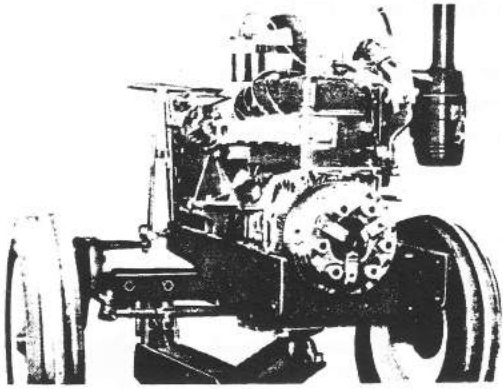

Fig. 3 Front View Detached
- Set up the garage jack a little to keep the tractor horizontal, slide the jack forwards and the tractor is divided into two as shown in Fig. 3.